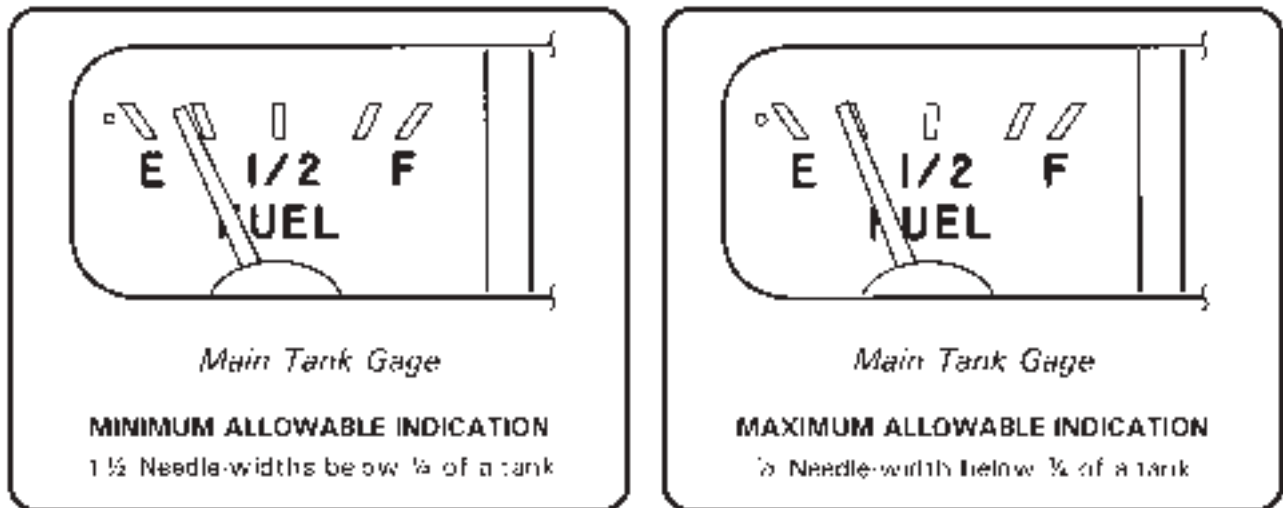

FIGURE 12-7 FUEL QUANTITY INDICATION CHECK
3. Turn battery switch on and read fuel quantity gage. Verify fuel gage indicates one half to one and one half needle-widths below a quarter of a tank, as shown in Figure 12-7.